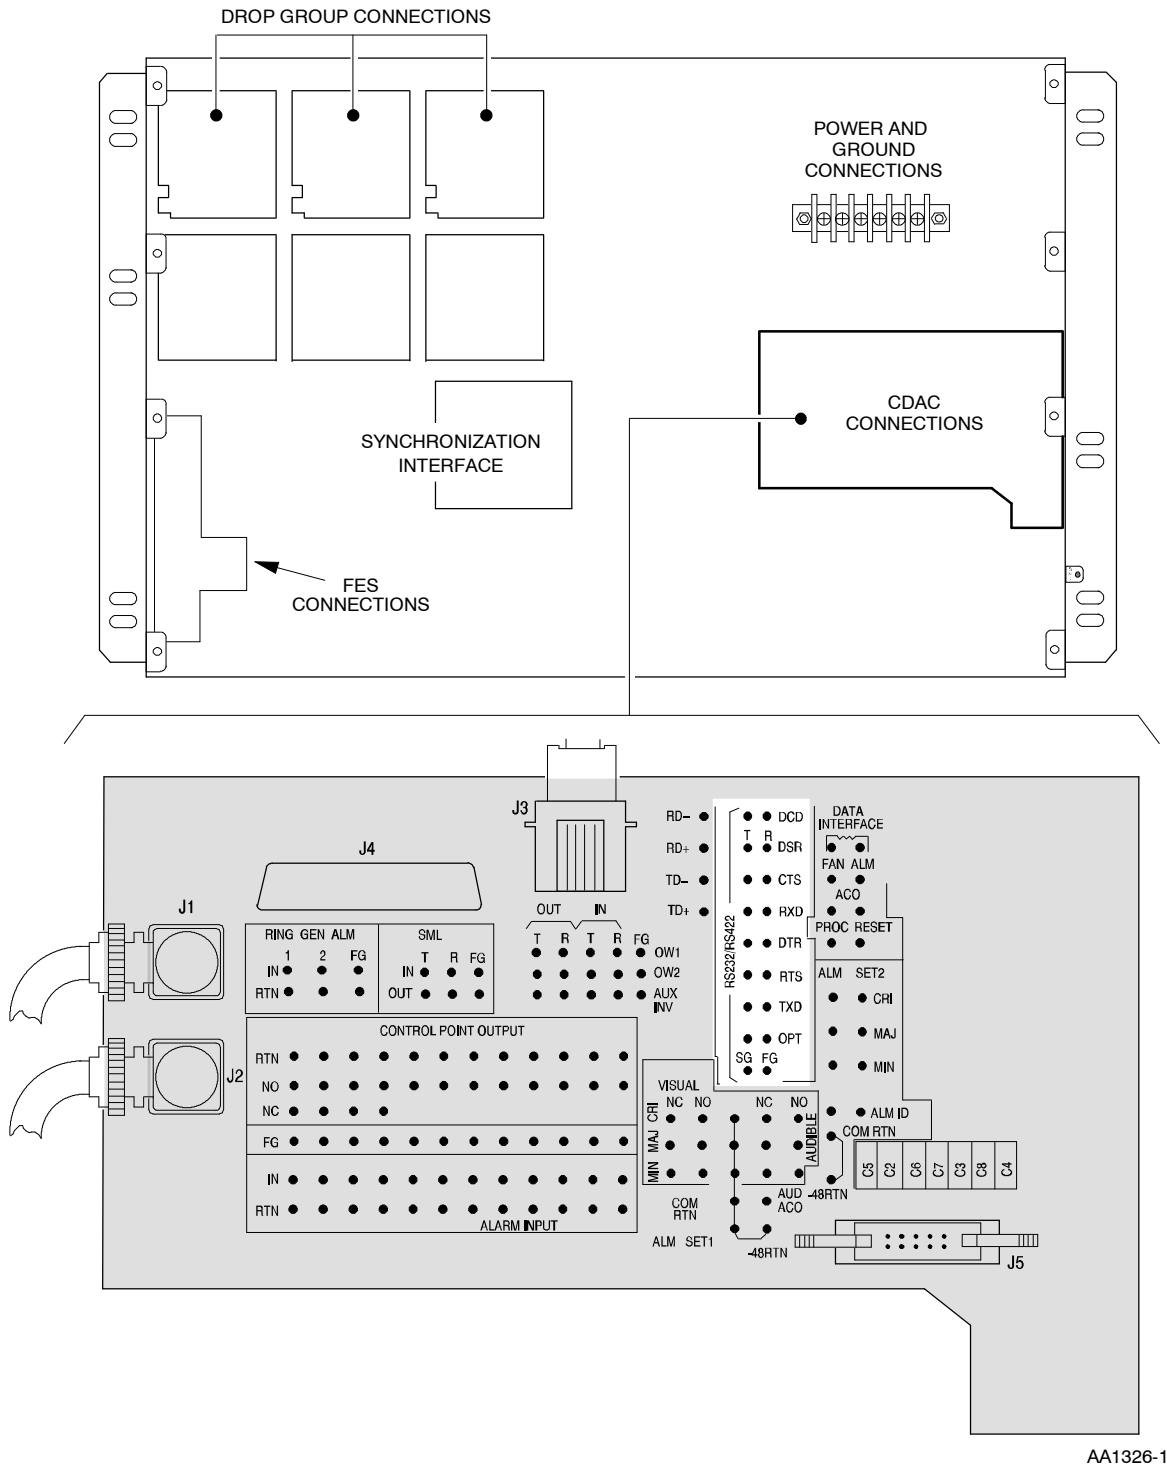

Figure 1. 1603 SMX Shelf, Rear View of Craft 2/E2A Connection Points
- 23** Verify cable connections on the rear of the 1603 SMX shelf. See Figure 1 and DLP-553 for Craft 2 port connections or DLP-019 for X.25 wiring.
43 Verify cable connections on the rear of the 1603 SMX shelf. See Figure 1 and DLP-553.